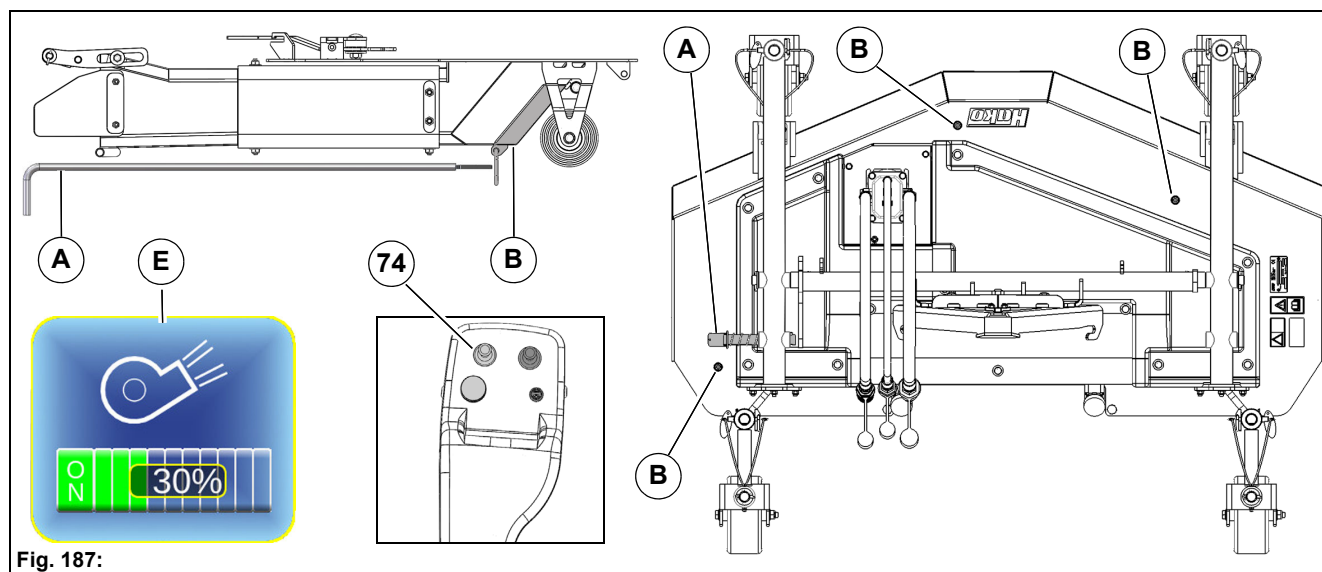

Fig. 187:
3. With the lance **Fig. 187-A** open the flap **Fig. 187-B** of the suction nozzle and remove the coarse dirt. Lock the flap again with the lance.
4. Switch the vehicle on and switch on the suction fan **Fig. 187-E** in the working menu of the multifunctional display and let it run for one to two minutes.
6. Plug a water hose onto the hose coupling **Fig. 187-B** and let the mower run for one to two minutes.